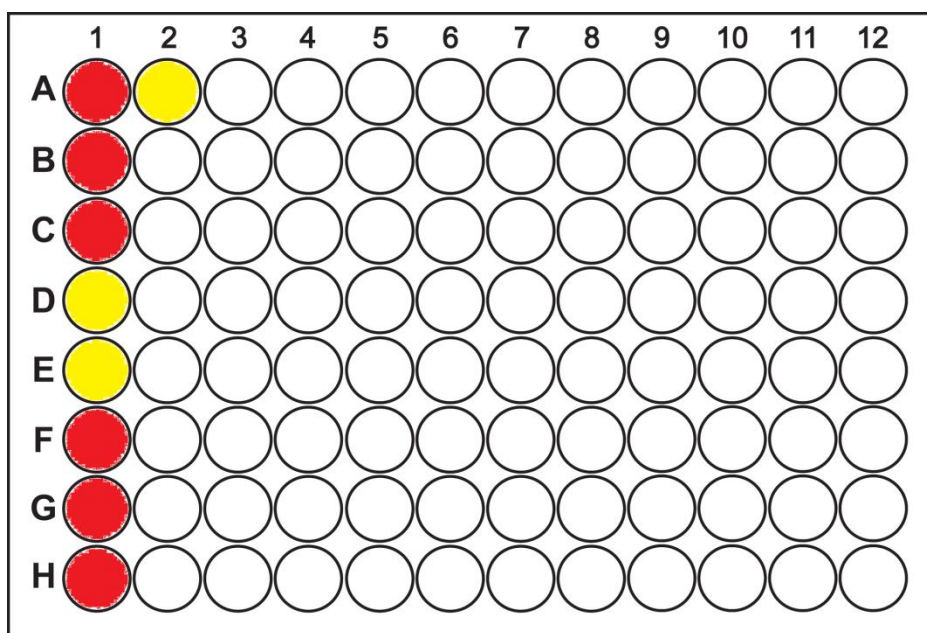

Figure 6.5.
When we continue “titration” with the third solution (II), we get Figure 6.5: